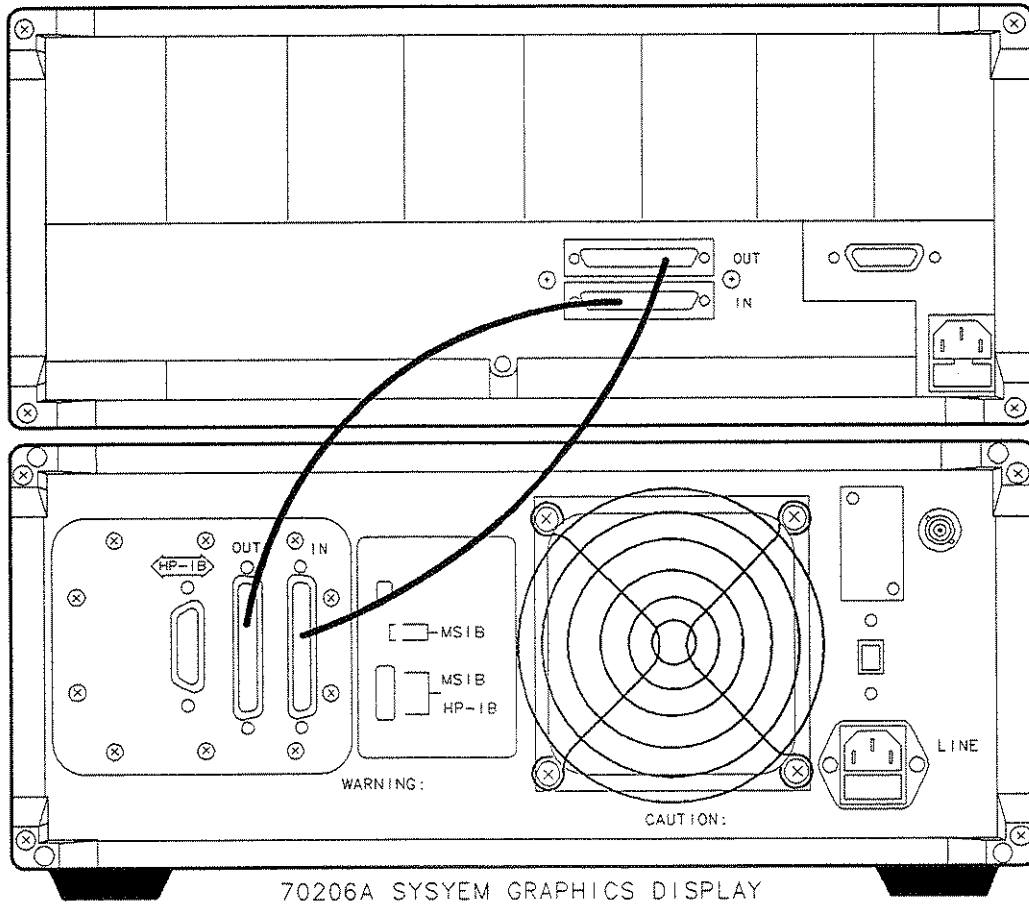

**Figure 2-7. Display Address Switches**
1. Locate the address switches on the rear panel of the display. See Figure 2-7 for an example of the switches.
When you set the HP-IB switch to 0 (OFF), the display switches off the HP-IB. The HP-IB switch does not disrupt instrument operation. Refer to Figure 2-7 for the location of the HP-IB switch.
A graphics display is an independent element. You may assign the display both HP-MSIB and HP-IB addresses. Figure 2-7 illustrates the display's address switches. The address switches are a group of two position toggle switches, which can be set to either 1 or 0.